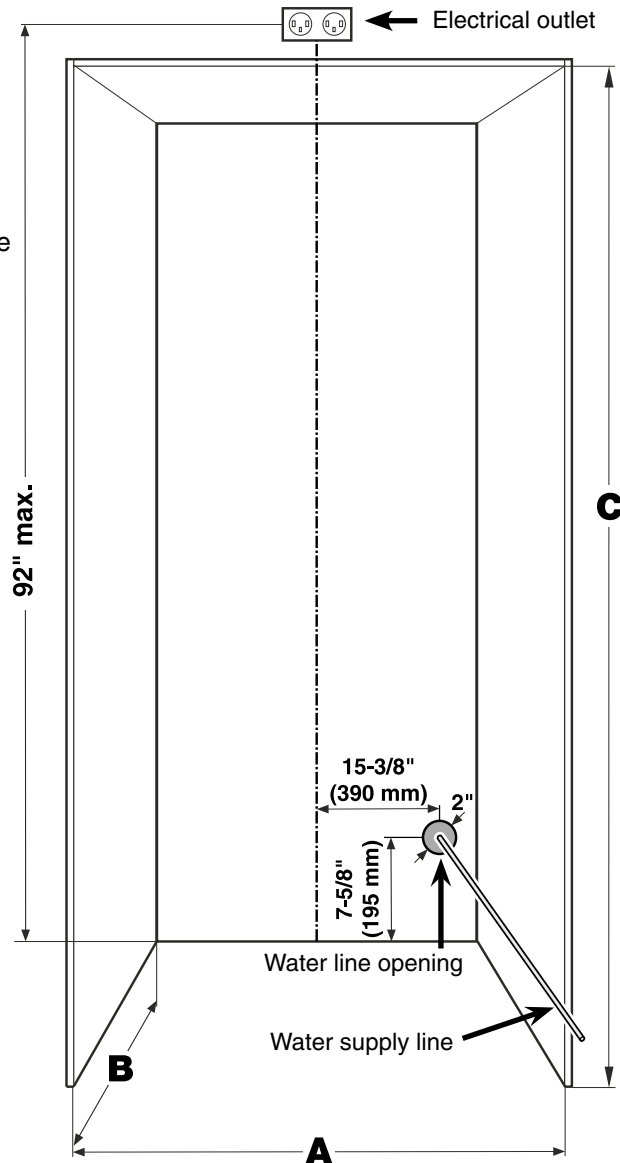

Figure 4
Cabinet Opening Dimensions - Figure 4
At 24" cabinets, the water line opening must be in the location as shown in **Figure 4**.
2. Drill a 3/8" diameter hole in any position as shown in **Figure 4** using a carbide drill bit.